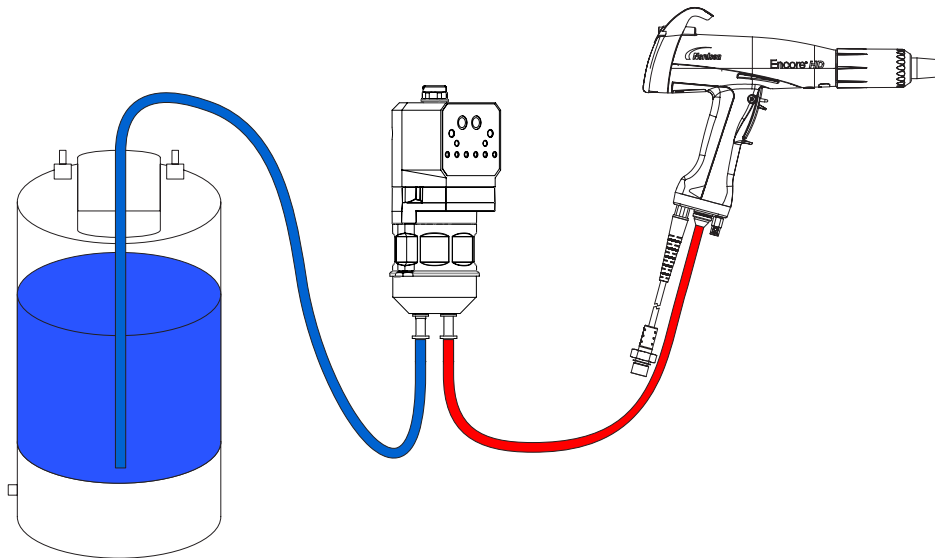

Figure 13 Tubing Connections
1. Connect the suction tubing as shown in Figure 13.